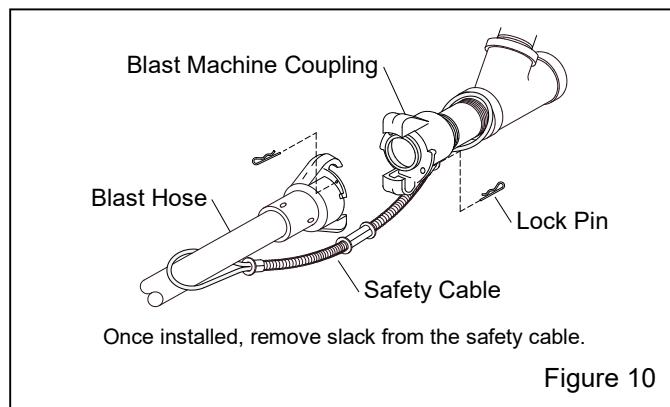

Figure 10
2.6.3 Connect the ▲blast hose from the cabinet hopper to the coupling at the bottom of the blast machine. Make sure coupling gaskets are in place and couplings are secured with safety lock pins and safety cable, as shown in Figure 10.